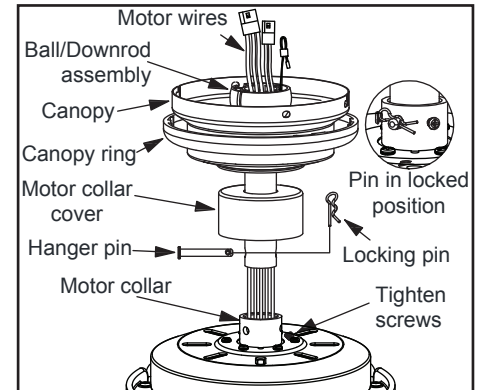

Figure 10
4. Route the wires exiting the top of the fan motor through the decorative motor collar cover then the canopy ring. Make sure the slot openings are on top. Route the wires through the canopy and then through the ball/downrod assembly. (Figure 10)
6. Align the holes at the bottom of the downrod with the holes in the collar on top of the motor housing. (Figure 10)
7. Carefully insert the hanger pin through the holes in the collar and downrod. Be careful not to jam the hanger pin against the wiring inside the downrod. Insert the locking pin through the hole near the end of the bolt until it snaps into its locked position, as noted in the circle inset of Figure 10.